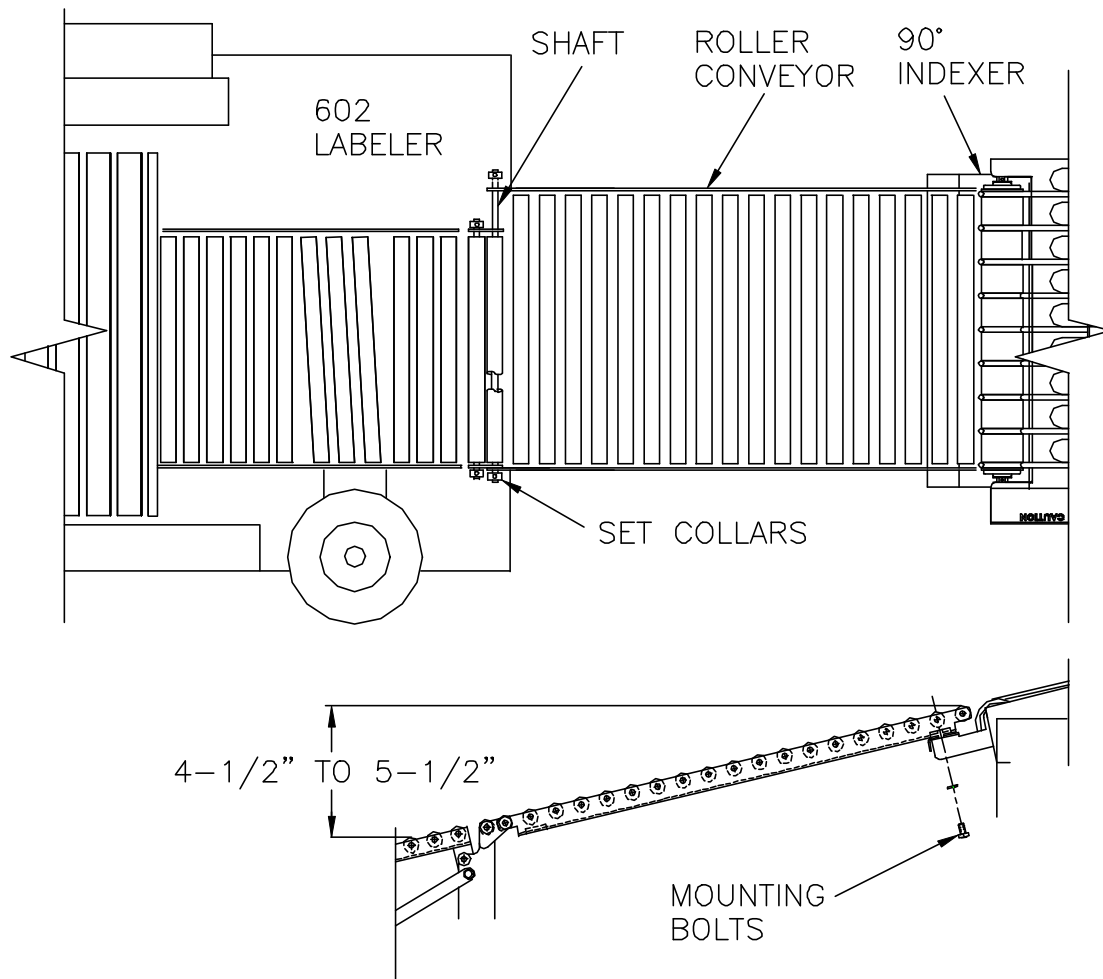

Figure 4-4: 602 Attachment
- On 602 applications the discharge roller assembly is attached to the infeed of the 602 by replacing the first infeed roller shaft with the 15" shaft and set collars provided. **Note:** The 602 must be positioned as far to the right (away from the infeed of the indexer) as possible (See figure 4-4).